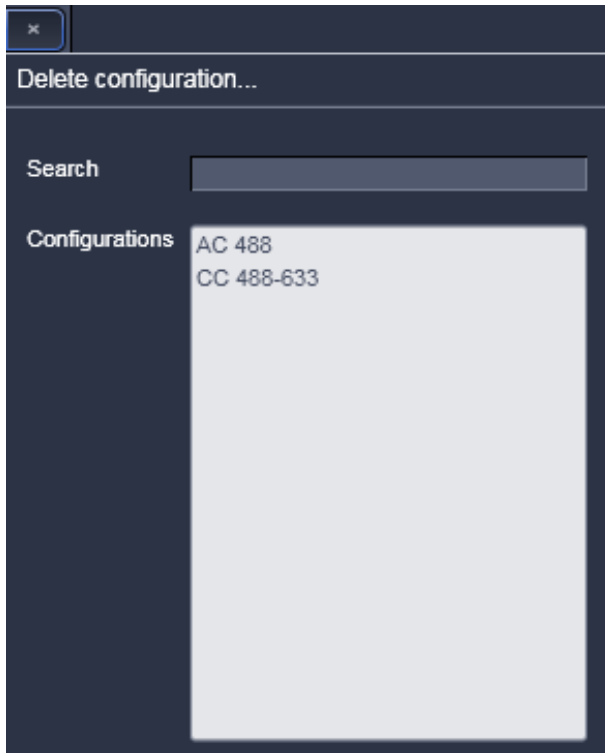

Fig. 311 Delete configuration... window
- Click on the **Delete** button. A **Delete configuration...** window will appear (Fig. 311).